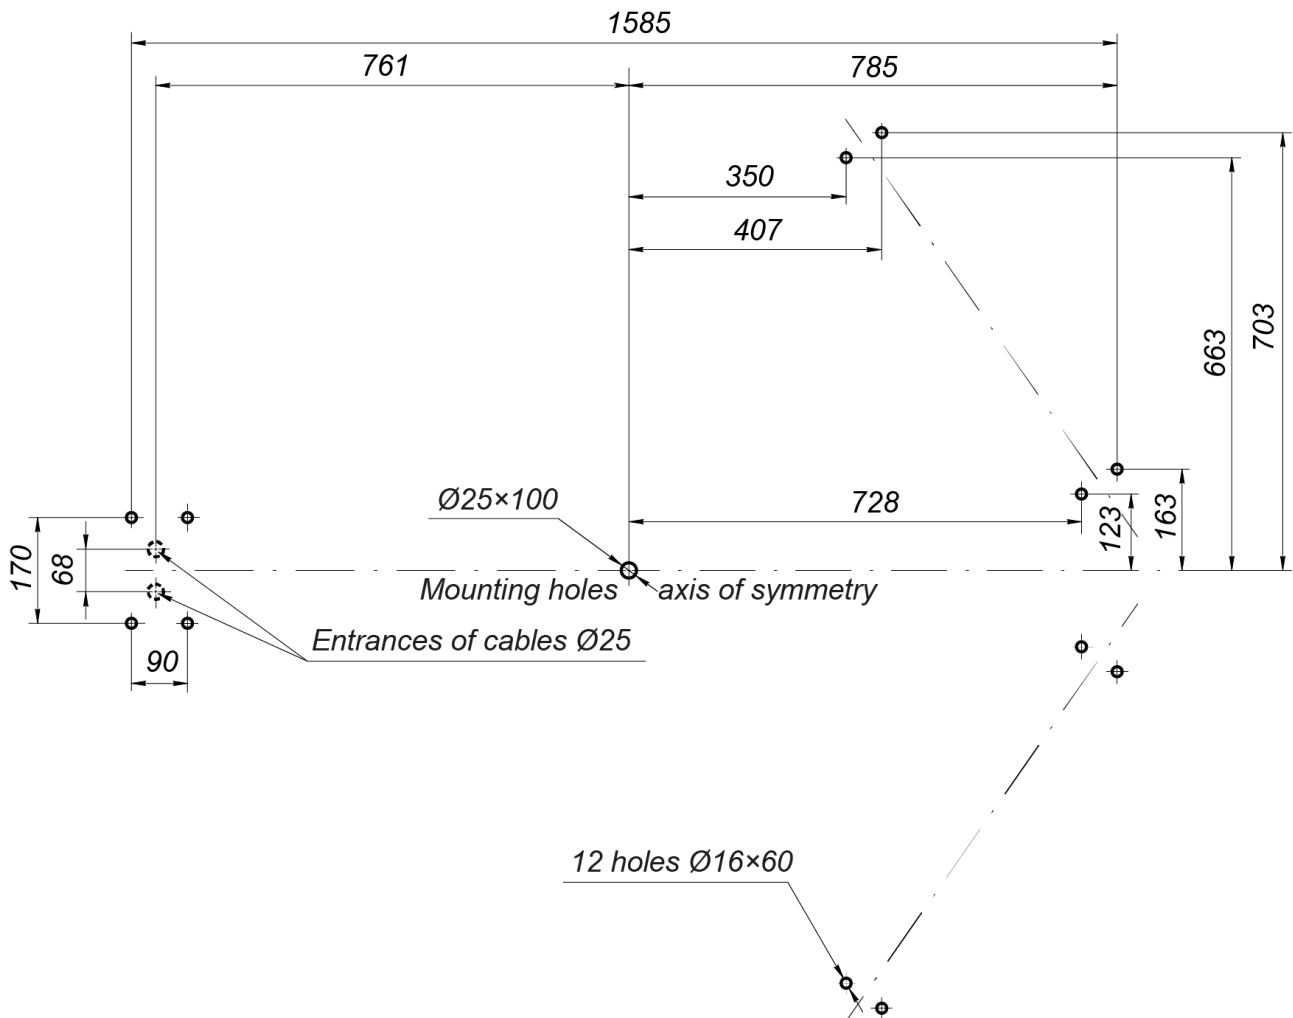
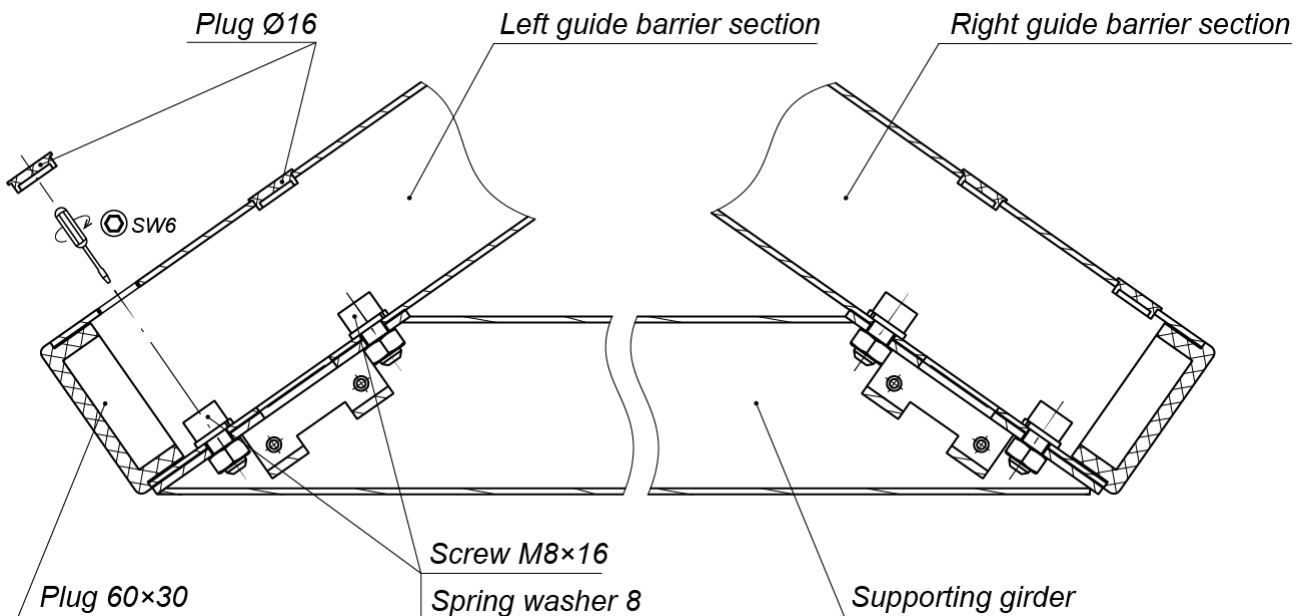

Figure 12. Mounting hole pattern
Figure 13. Fixing of the supporting girder (7) to the barrier sections (6)
1. Install PS of the turnstile and if necessary PS of walkway downlights in designated locations and connect the power cables of the turnstile (13) and walkway downlights.
3. Mark out on the mounting surface mounting holes for the turnstile installation in accordance with Fig. 12.
sections should have right positioning and orientation: indication blocks of the guide barrier sections should be turned out of the axis of symmetry (see Fig. 12); consider the positioning of the support post fixing points on the sections (see Fig. 13).
9. Install the supporting girder (7) on the guide barrier section (6):
- Fix the supporting girder on the guide barrier sections by four screws M8×16 (wrench SW6) from the set of assembly tools (box №5). When installed outside it is recommended to seal the fixing zone with a weather resistant silicon sealant to ensure reliable operation of the module (see Fig. 13).
10. Unpack post with barrier arms (5) (box №5).
11. Install the barrier section with barrier arms (5) (operation should be performed by at least two persons!):
- For laying the power cables and control cables through the cable ducts in the mounting surface from underneath: lay the barrier section with barrier arms (5) on the mounting surface so that the supporting flange is near the hole A. Then using a fish tape drag the cables from the flange side throughout the supporting girder out of the top end opening. The cable pin ends should stick out 0.8-1.0 m from the upper hole. Temporarily fix the cable pin ends on the upper barrier post (for example, with adhesive tape).
- Erect the barrier section with barrier arms on holes with anchor bolts on the mounting surface along the symmetry axis, at this the flange should coincide with area A, and the bottom rotation unit (3) – with the hole with M16 anchor bolt (see Fig. 12).
17. Tighten the anchor bolts in the fastenings joining the installation surface of supporting flanges of the barrier arms post (5) and flanges of the sections (6) of guide barriers set. In case of skewing in between the load-bearing elements of the turnstile, assembly gaskets are to be used.
19. Use the plastic plugs Ø16 to cover the bolt holes in the joints connecting the rotor section (2) and supporting girder (7) to the section (6) of guide barriers set (Fig. 13 and 20).